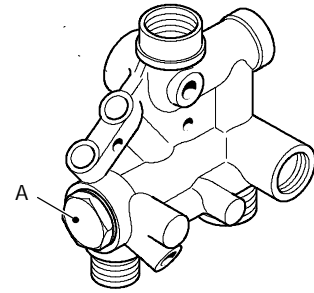

fig. 68
- 2 Unscrew the plug A (fig. 68) and extract the filter.